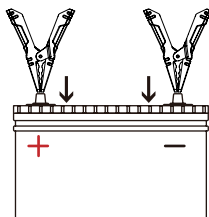
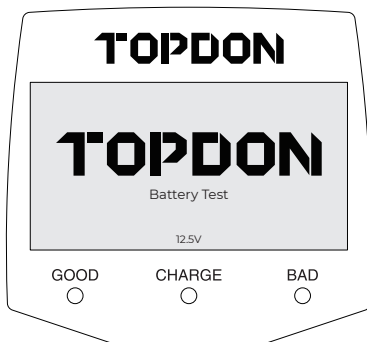

Figure 3.4.1
Figure 4.1
- 2) Attach the red clamp to the positive (+) terminal and the black clamp to the negative (-) (See Figure 3.4.1).
For any of the tests (either via the device or APP), clamps must be connected securely to the corresponding terminal, that is, black to the negative terminal (-) and red to the positive terminal (+) (See Figure 3.4.1). After the connection is made, the BT100W will automatically start and display the interface as shown below (See Figure 4.1):